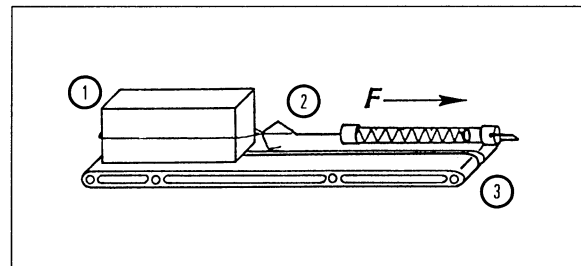

Fig. 1 Sliding friction:
1. Position the two pulley bridges next to one another as shown in fig. 1 and place the cuboid on top.